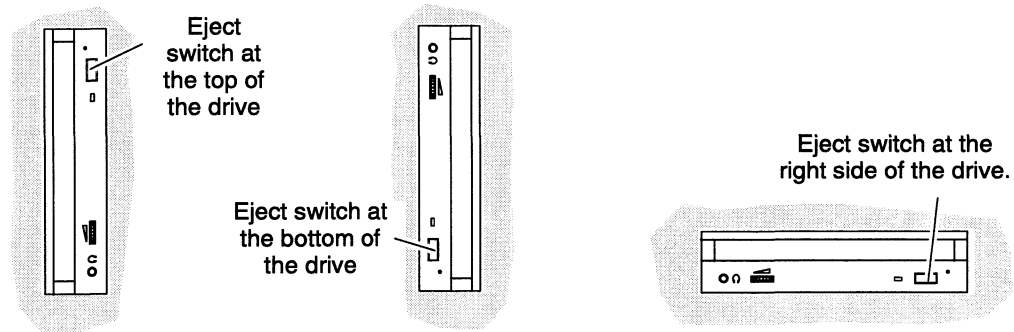

Figure 3 The three mounting positions for the CD-ROM drive models
2. Determine whether you want to mount the drive vertically or horizontally (Figure 3).